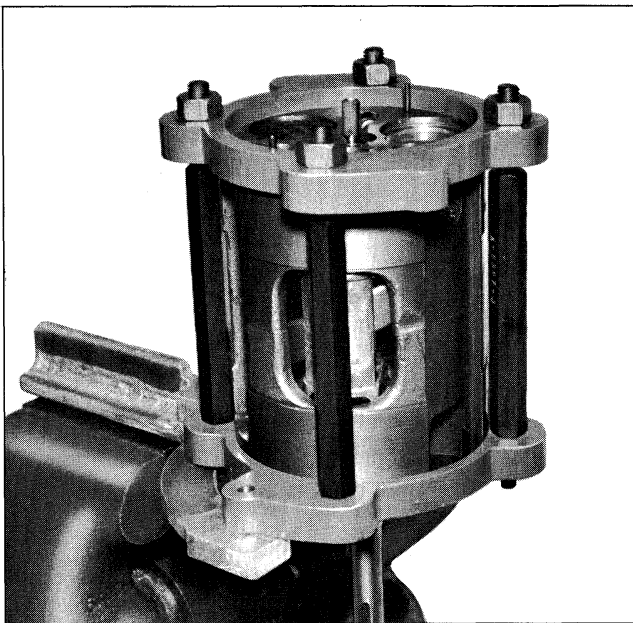

Fig. 5-23 Internal Mechanism in Fixture
13. Place cylinder assembly in J-9397 compressing fixture with front of compressor shaft pointing down, positioning discharge tube opening between fixture bolts. This will permit access for the feeler gauge. Assemble fixture head ring and nut to the cage, tighten nuts evenly to 25 lb. ft. torque (Fig. 5-23).